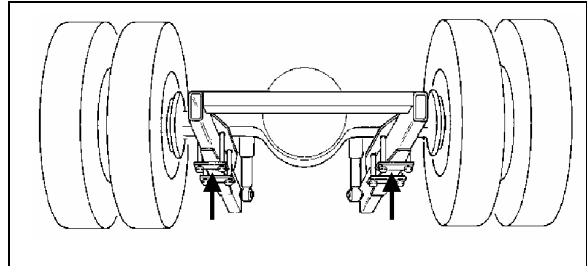

FIGURE 6: JACKING POINTS ON DRIVE AXLE 11005
- FIGURE 6: JACKING POINTS ON DRIVE AXLE 4
8. Install jacks under the axle jacking points to support the axle weight (refer to figure 6).